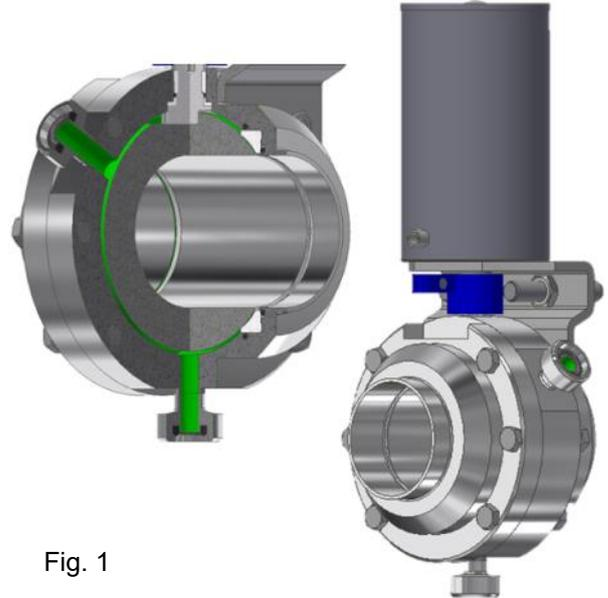

Fig. 1
- Optionally with flushing connections (figure 1) or heating jacket.
<ul style="list-style-type: none"> <li>• Sizes <ul style="list-style-type: none"> <li>* DN 25 - DN 100</li> </ul> </li> <li>• Process connections <ul style="list-style-type: none"> <li>* Weld ends</li> <li>* Connecting elements from the M&amp;S portfolio</li> </ul> </li> <li>• Operation <ul style="list-style-type: none"> <li>* Manual, pneumatic or electrical</li> </ul> </li> <li>• Automation <ul style="list-style-type: none"> <li>* Different control heads (FIELD BUS-systems) or position controllers</li> </ul> </li> <li>• Operating pressure <ul style="list-style-type: none"> <li>* 10 bar (DN 15 - DN 100)</li> </ul> </li> <li>• Material <ul style="list-style-type: none"> <li>* Housing: AISI316L/1.4404; special stainless steel, Titanium oder Hastelloy on request</li> <li>* Gaskets: PTFE/PEEK, O-rings FEP-covered, FDA-compliant</li> </ul> </li> <li>• Surfaces <ul style="list-style-type: none"> <li>* In contact with product <math>Ra \leq 0,8 \mu\text{m}</math></li> <li>* Not in contact with product <math>Ra \leq 1,6 \mu\text{m}</math></li> </ul> </li> <li>• Optionally with flushing connections for cleaning the ball rear chamber (figure 1) or with heating jacket</li> <li>• Optionally conductive sealing shells (ATEX)</li> </ul>